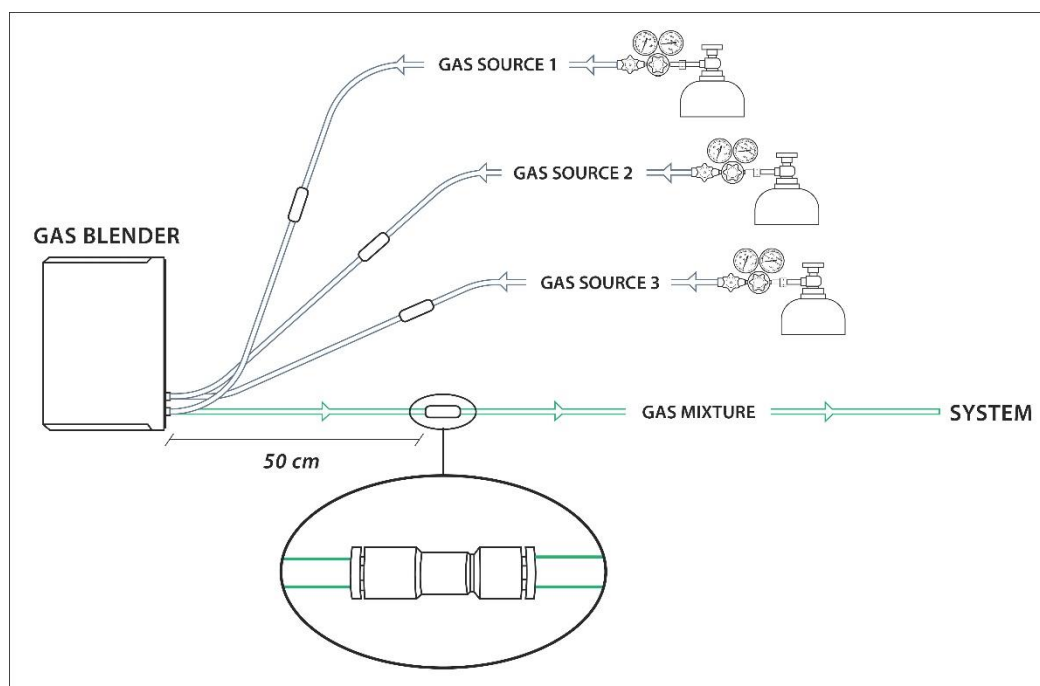

Figure 3-10
- 5. Gas Blender Outlet** - Another One Touch valve must be positioned at a distance of 50 cm from the Gas Blender outlet to secure a proper working of the instrument. Take the 50 cm long tube and connect one end with the one touch valve, then connect the other end to your system, as shown in the pictures below (Figure 3-10).